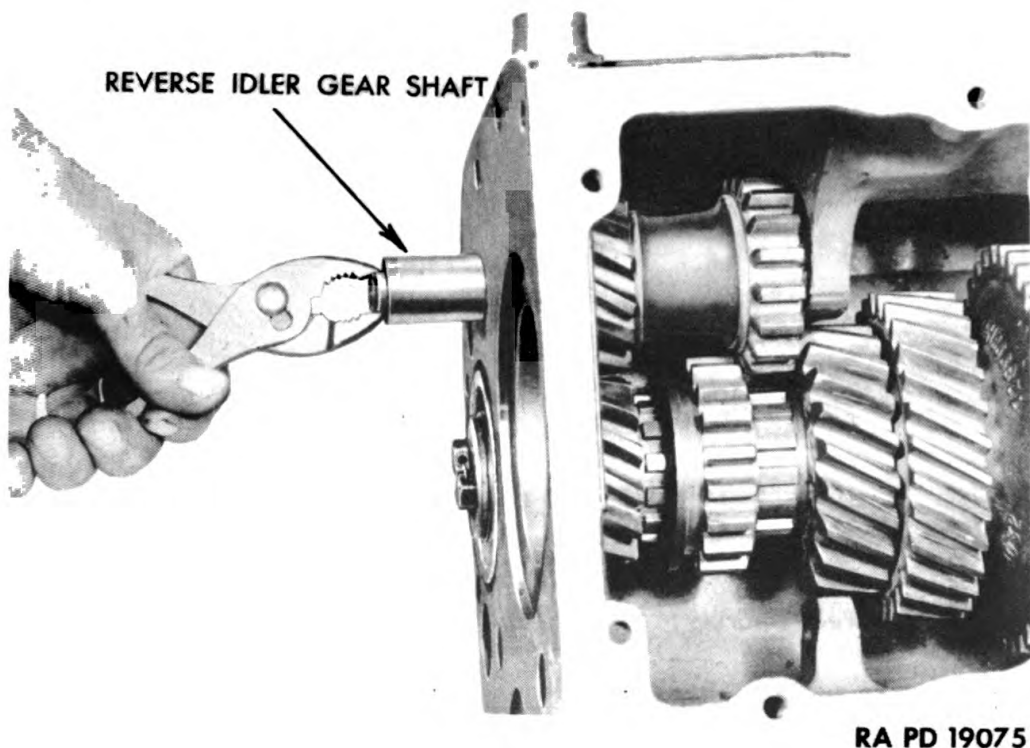

Figure 153 — Removing Reverse Idler Gear Shaft
o. Remove Reverse Speed Idler Gear and Shaft. Drive or pry idler gear shaft toward rear of case until front end is clear of support in transmission case. Complete removal of shaft with pliers (fig. 153). Remove reverse speed idler gear and two thrust washers, one at each end of gear, from case (fig. 154).